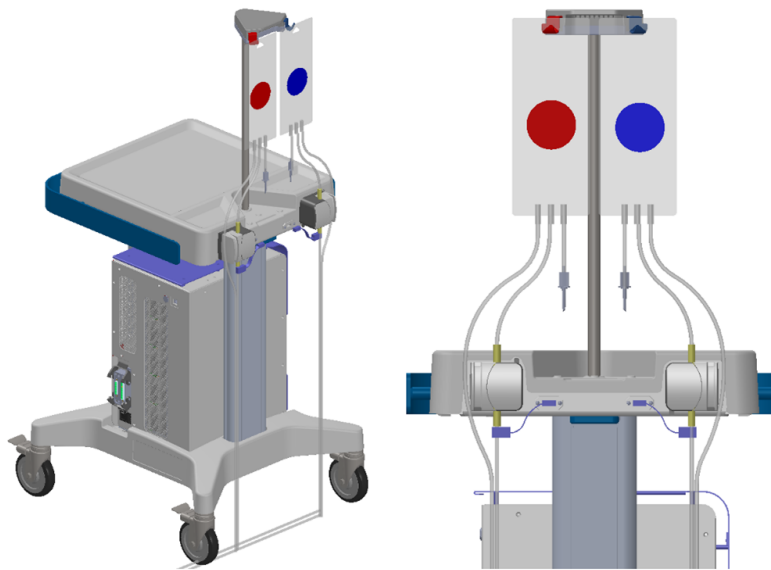

Figure 2: Preparing the system cart and fluid tube sets
- f. Hang the ECD reservoir bag on the blue weight sensor hook on the System Cart (*Figure 2*).